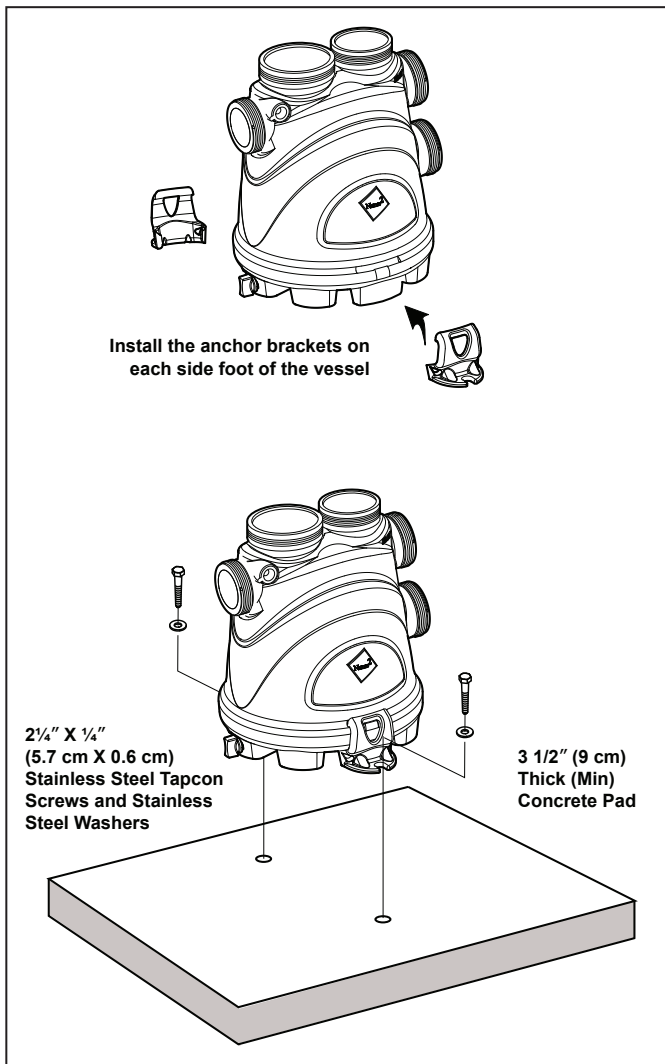

Figure 1. Installation of Anchor Bracket
1. Manually snap on the two (2) clip-type anchor brackets onto the side feet of the vessel. Make sure these anchor brackets are attached firmly to the feet of the vessel. See Figure 1.
3. Drill a 5/32" (0.5 cm) hole in the concrete at each of the two (2) hole locations of the anchor brackets. The correct size concrete drill bit should be obtained when the concrete screws are purchased.
4. Install the Tapcon screws and washers into each of the two (2) holes to secure the vessel to the equipment pad. Do not over-torque the screws.